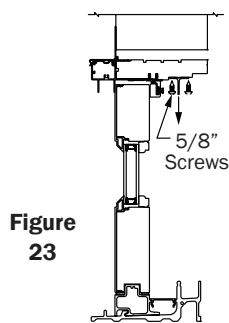

Figure 23
26. Remove T-Rails at the frame head by backing out the 5/8" screws and put aside (Fig. 23). These will be re-installed later.